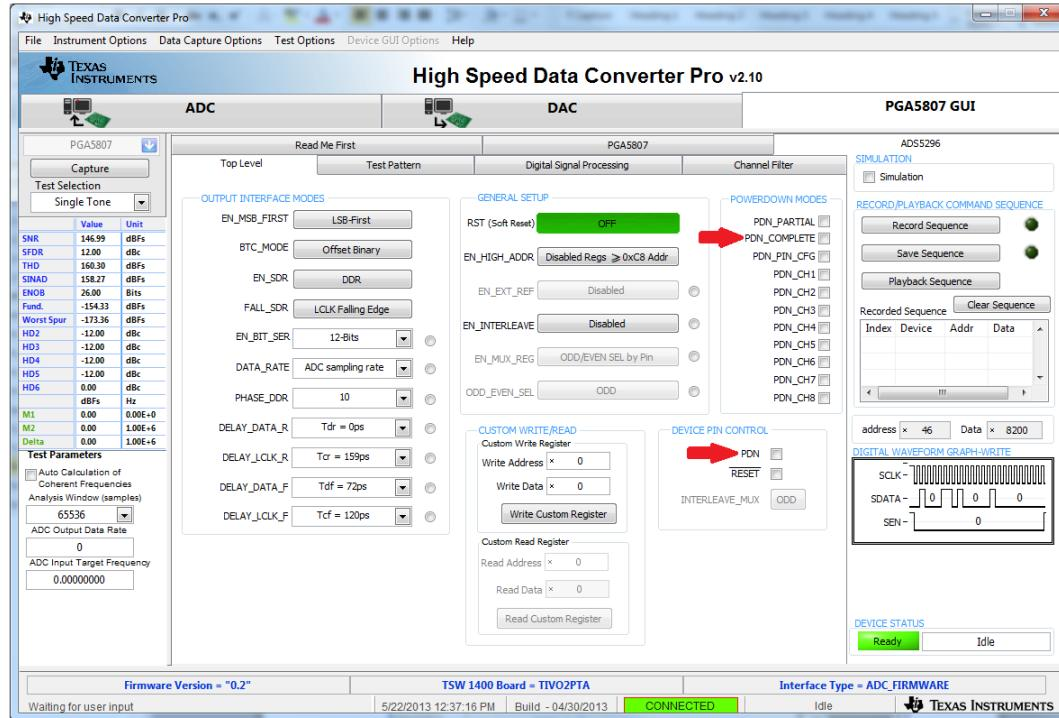

Figure 31. ADS5296 Tab of the PGA5807 GUI
As shown in Figure 31, the ADS5296A tab contains all controls pertaining to the ADS5296A device installed on the EVM.
4. Verify that communication between the PGA5807A EVM and the PGA5807 GUI is established by toggling either the **PDN_COMPLETE** checkbox or the **PDN** checkbox, as indicated on Figure 31. Checking either box should make +5-V power supply current drop from ~650 mA – 750 mA to ~350 mA – 450 mA. If the DC current is approximately 480 mA, with both power down boxes unchecked, it indicates that the ADS5296A is not receiving the sampling clock. Please ensure that the 3-pin headers are configured as described in Section 3.2. Before continuing, ensure that both power down boxes are left unchecked. At this point, the GUI is confirmed to be communicating correctly with the EVM and testing can begin.